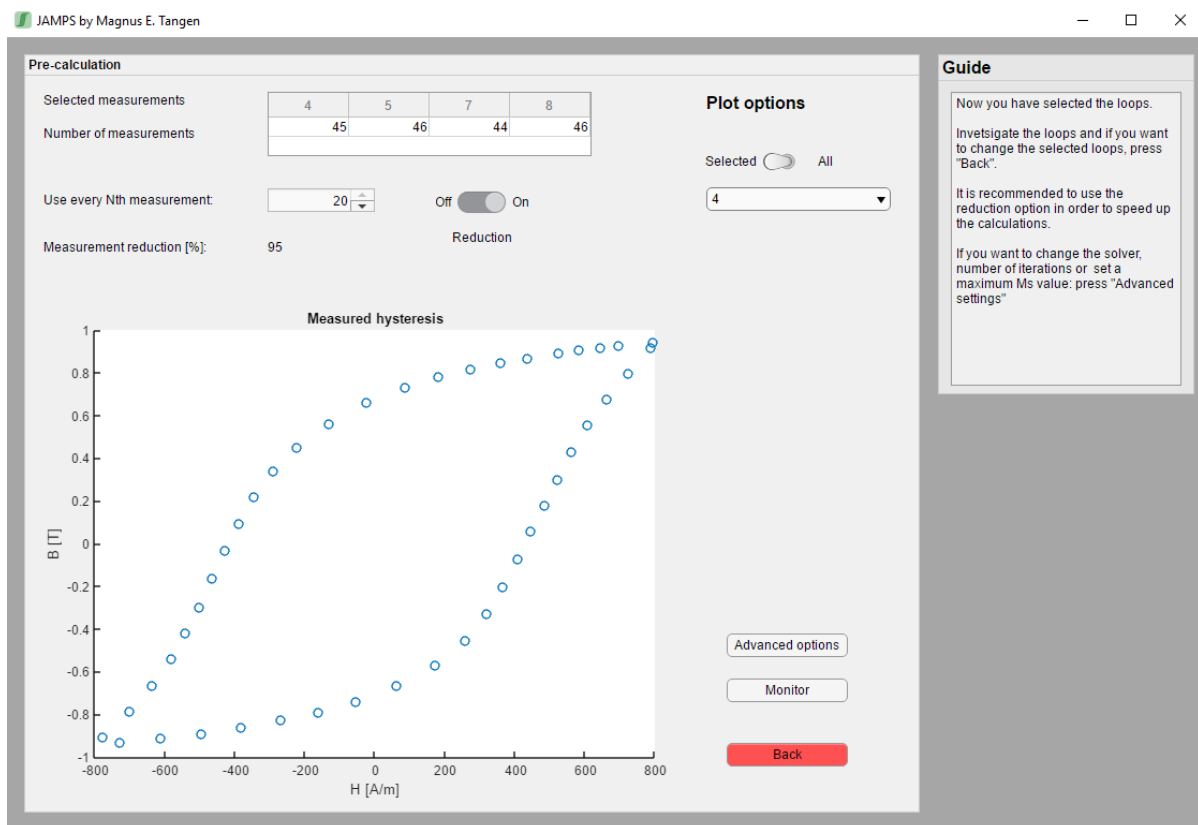

Figure 1.6: JAMPS manual - Individual investigation of selected DC hysteresis loops
- 2 By flicking the Plot options switch to 'Selected' the selected curves can be investigated separately, as seen in Figure 1.6.